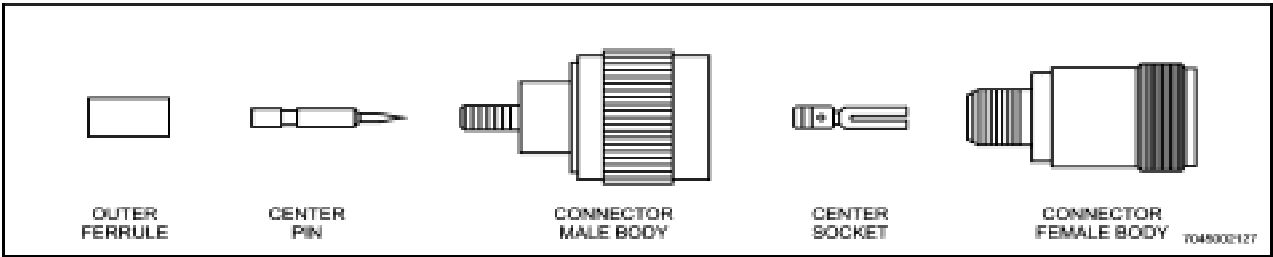

Figure 12–21 Attaching Series C and SC Connectors to Coaxial Cable
- g. Install cable assembly into body assembly so that inner ferrule portion slides under braid. Push cable assembly forward until contact snaps into place in insulator. Slide outer ferrule over braid and up against connector body. Crimp outer ferrule using cavity of die set specified in Table 12–2. (See Figure 12–16.)